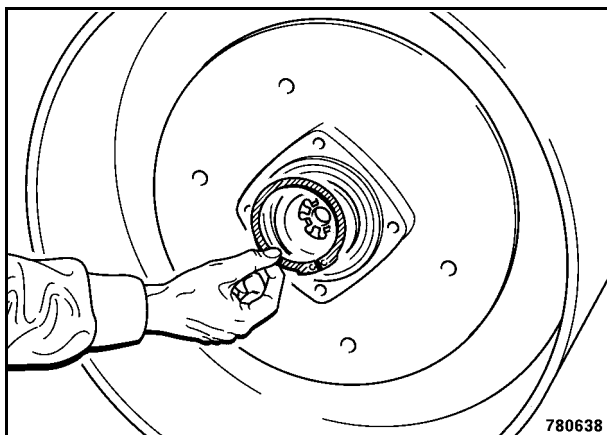

Fig. 7
12. Unclip the circlip (Fig. 7) from the bearing housing.